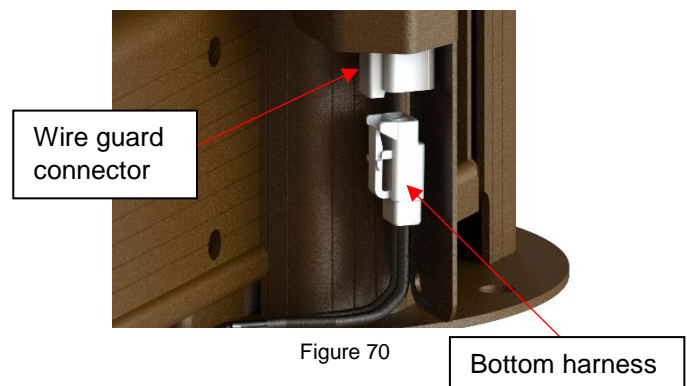

Figure 70
- 15) Now connect the bottom harness to the wire guard connector. The bottom harness is attached to the key switch cable. Cut the cable tie that holds the bottom harness. Connect it to the wire guard connector. (Figure 70)